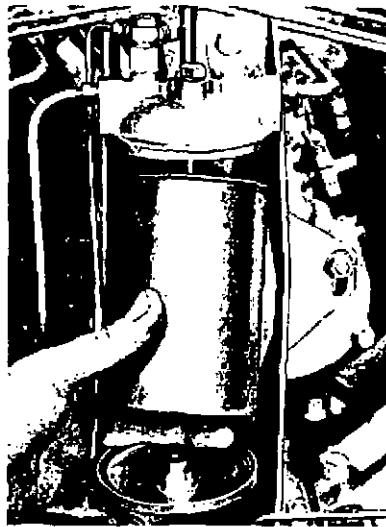

Fig. 17
- (b) Unscrew the setscrew in the centre of the filter head, lower the base and discard the filter element (see Fig. 17).